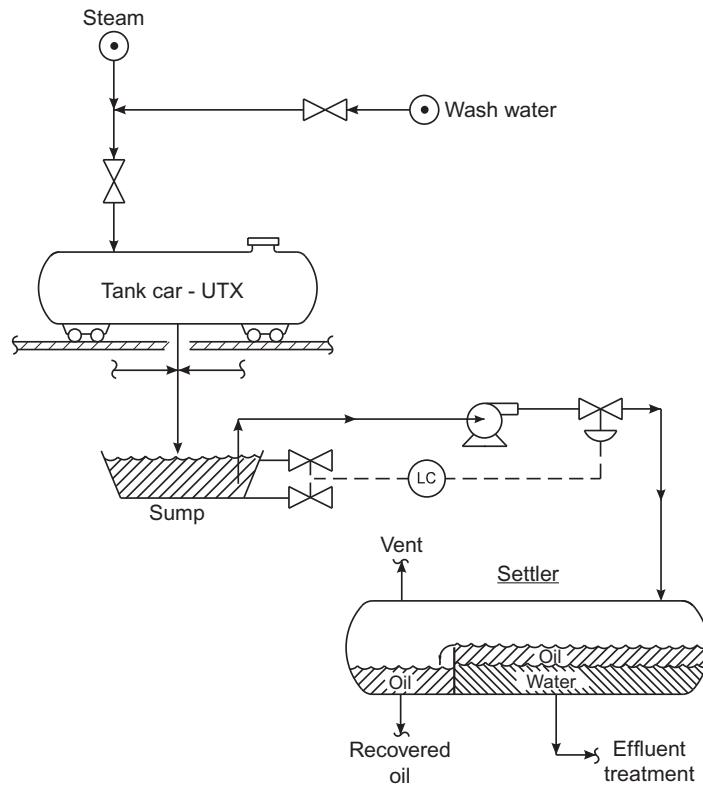
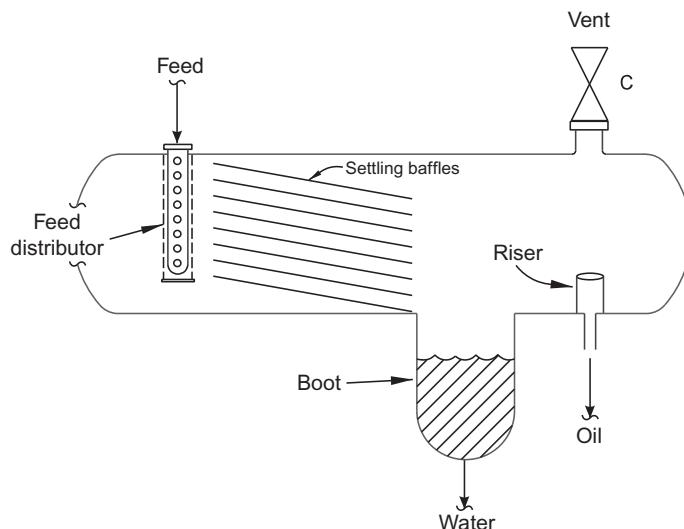

FIG. 8.1 Tank car steam condensate recovery system.
FIG. 8.3 Oil-water coalescer with sloped setting baffles.
“Mr. Lieberman, as you can see from the sketch I emailed you, we steam-out rail cars to remove diesel and other hydrocarbon residues. We then have several thousand BSD of an oil-water mixture that we must separate in a horizontal settling drum. Our problem is that we still have 3000–5000 ppm of residual hydrocarbons in the effluent water (see Fig. 8.1.”
One year, during a unit turnaround, the recip pump was replaced with a centrifugal pump, with also the addition of a sump level control valve on the discharge line (Fig. 8.1). A sample from the discharge of the pump required a half an hour to settle out. A sample from the level control valve required most of the day to settle. To minimize settling time due to the emulsification in the settling drum for the UTX unit, I suggested eliminating the control valve on the discharge of the sump pump shown in Fig. 8.1. We could then use a level switch that would turn the pump on at a given level and off when the level dropped below the set point. I would have suggested the use of a reciprocating pump, but did not think my client would appreciate this costly expenditure.
Since the effluent (see Fig. 8.1) of the tank car wash water collection sump was full of black particulates, I decided to eliminate use of packing as a viable option.
Fig. 8.3 shows the common industry practice of the use of settling baffles. I have used this design on several occasions with good results, even in fouling services. A typical settling baffle configuration uses:
Water flows into the boot shown in Fig. 8.3 and the oil overflows into the riser pipe (typically 6 in.).
But this third factor is always unknown. So, like everything else in process design, the engineer must ultimately rely on judgment and experience, when sizing water-oil settling vessels. The story I have just related about the UTX rail tank car cleaning project is a typical example. Eliminating the LRC valve shown in Fig. 8.1 was likely the critical improvement.
3. Retrofitting the settling drum (Fig. 8.1) with sloped settling baffles (Fig. 8.3).